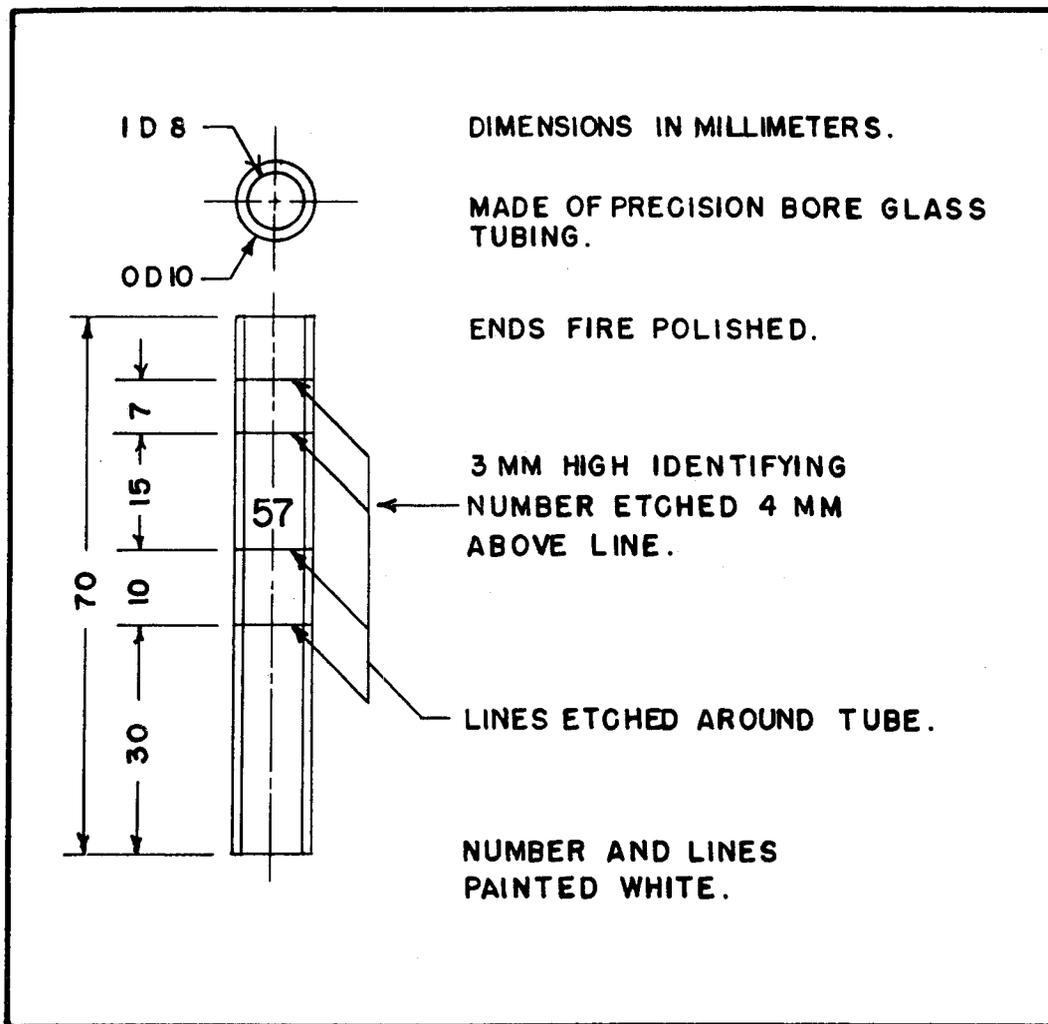

Figure 1. --Details of special viscosity tube.
1. One special viscosity tube. A laboratory supplier can make accurate tubes using the dimensions in figure 1. This tube requires only